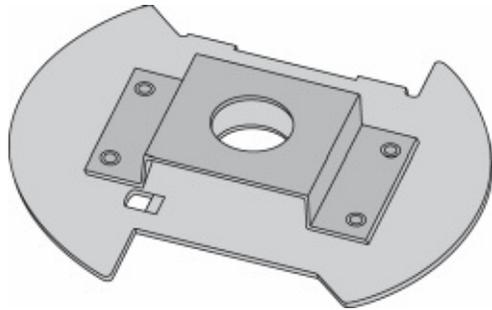

Figure 11
- 7a. **Single switches:** Slide the new hermetically sealed switch over the enclosing tube until it rests on top of the switch spacer or washer. Refer to Figure 11 on page 7.